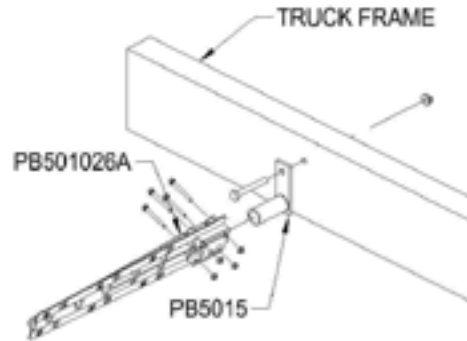

Figure 8
- A. Once the brackets are placed in position with the fender, securely tighten down the 5/8" x 4-1/2" bolts that go through the PB5015 steel swivel attaching the swivel to the frame. See Figure 8.